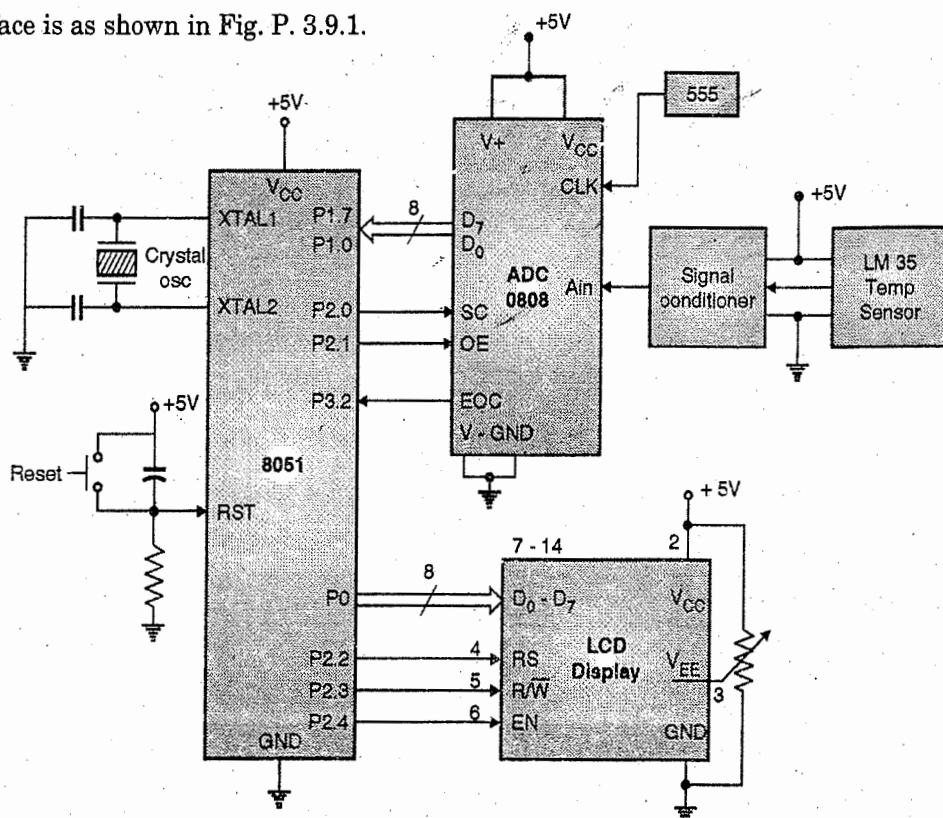

Fig. P. 3.9.1
- The interface is as shown in Fig. P. 3.9.1.